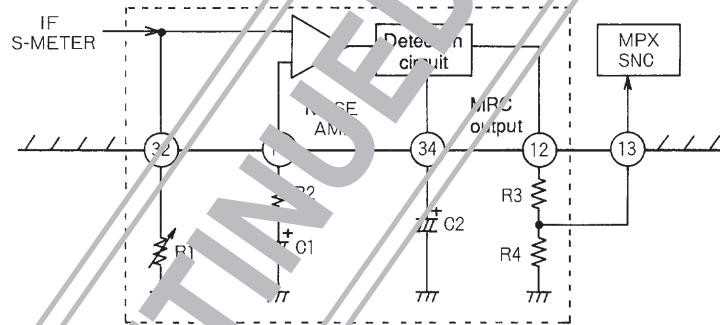
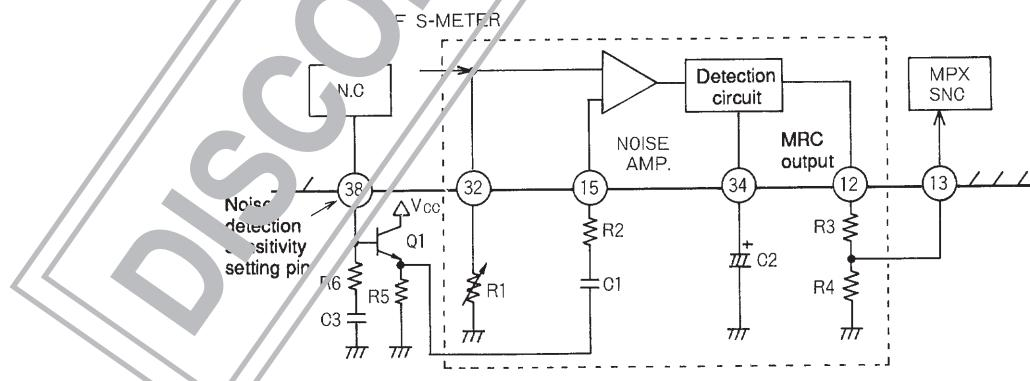
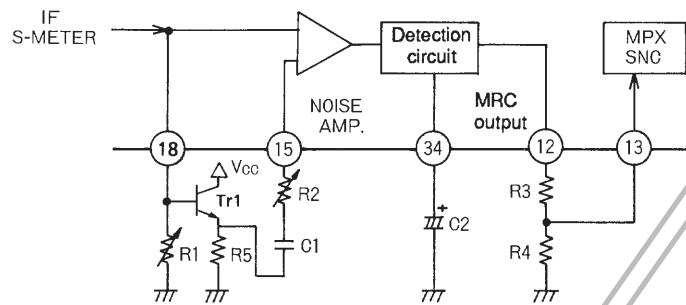
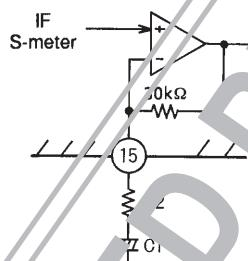

Figure 2 Multipath Circuit
Figure 3 Application Circuit Using NC HPF Noise Detection
Figure 4 Application Circuit Using IF S-Meter High-Area Detection
Figure 5
| 15 | MRC AC input pin | | <p>In methods in which the S-meter AC components are detected directly, the noise amplifier gain is determined by R_2 and the $30\text{ k}\Omega$ internal resistance, as shown in Figure 1. A certain degree of filtering characteristics can be provided with capacitor C_1.</p> <p>In methods in which the S-meter high area components are detected, or the NC HFD noise output is detected, the noise amplifier gain is determined by R_2 and $30\text{ k}\Omega$ as shown in Figure 2. Here, the frequency characteristics are determined by C_1.</p> |
- The MRC (multipath rejection circuit) supports three techniques as shown in Figures 2, 3 and 4. Figure 2 shows the technique in which the S-meter AC component is detected directly. Figure 3 shows the technique in which the NC HPF noise is detected, and Figure 4 shows the technique in which multipath is detected using the S-meter high area components.
- In the technique in which the S-meter AC component is detected directly the noise amplifier gain is determined by R_2 and the internal $30\text{ k}\Omega$ resistance as shown in Figure 5. A certain degree of filtering characteristics can be provided with capacitor C_1 .
- In the technique of Figure 4, in which multi-mode is detected using the S-meter high area components, and In the technique of Figure 3, in which the NC HPF noise is detected, the noise amplifier gain is determined by R_2 and the internal $30\text{ k}\Omega$ resistance as shown in Figure 5. The frequency characteristics of the circuit are determined by the capacitor C_1 .